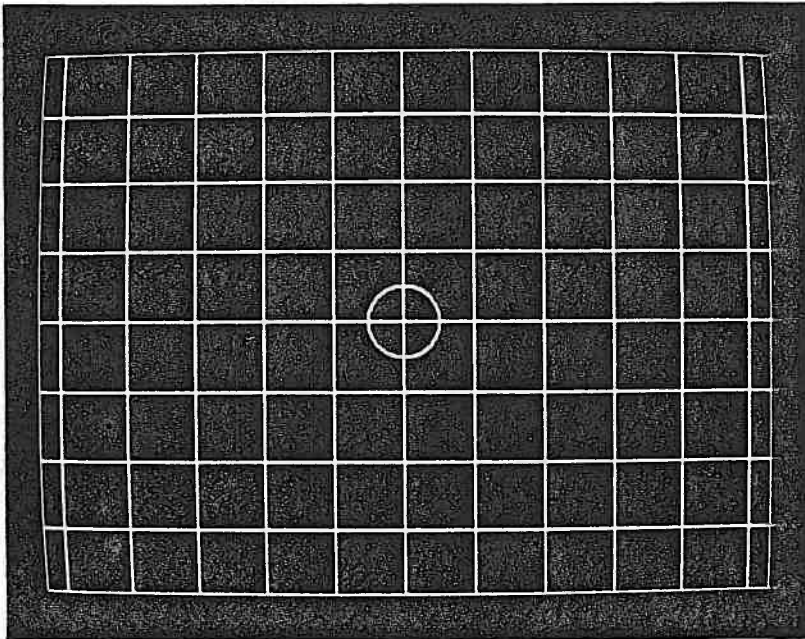

Figure 5-19. First Monitor Test Pattern
- a. The first test pattern produced is shown in Figure 5-19. When comparing the pattern, pay particular attention to the linearity of the lines and that the pattern is centered on the display.